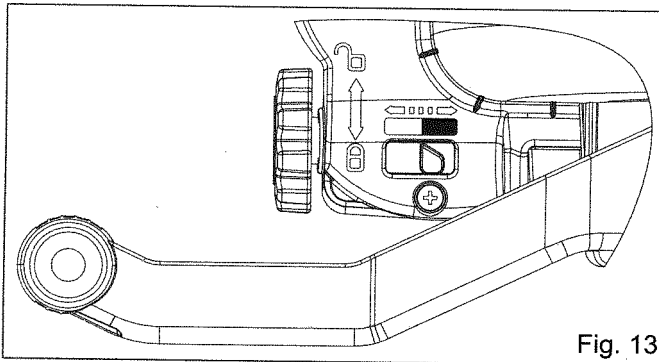

Fig. 13
8. Make sure to disconnect the unit from the power supply before attempting to clear any obstructions. The indicator of the lock knob must be entered into black area first, then the machine can be running (Fig. 13).